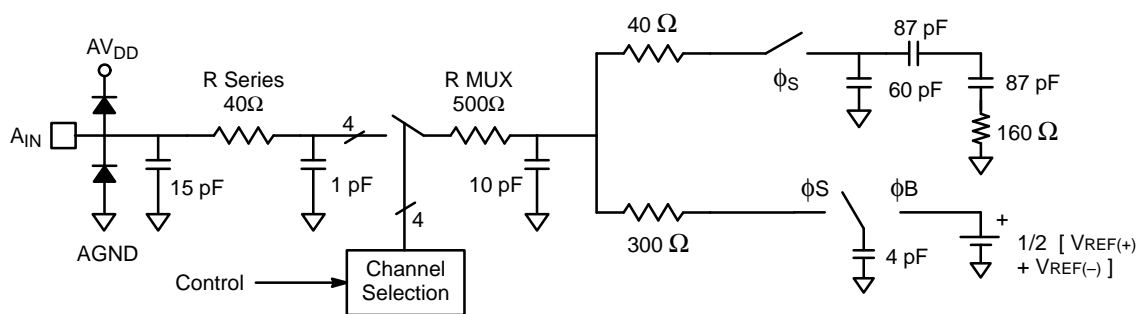

Figure 9. Analog Input Equivalent Circuit
- ³ See V_{IN} input equivalent circuit (see Figure 9.).
The MP87099's performance is optimized by using analog input circuitry that is capable of driving the A_{IN} input. Figure 9. shows the equivalent circuit for A_{IN} .